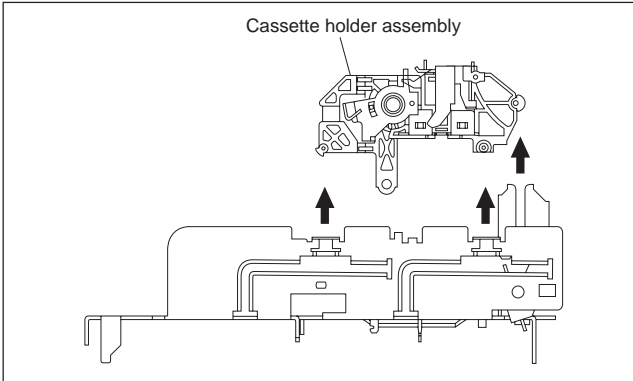
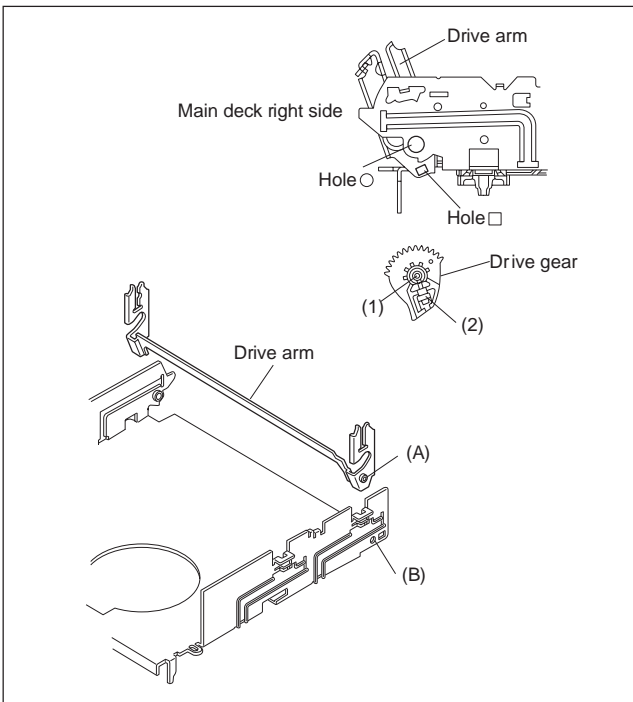

Fig.3-2-3d
Fig.3-2-3f
- (5) While holding the left side of the cassette holder, lift the cassette holder assembly so that the three legs on the left side are all released. Then pull the legs (A) and (B) on the right side out of the rail and also pull up the leg(C). (See Fig.3-2-3d and Fig.3-2-3f.)
- (6) Draw out the drive gear, and remove the drive arm.
- (1) Insert the section (A) of the drive arm into the section (B) of the main deck.
- (2) Insert the section (1) of the drive gear into the round hole, and the section (2) into the square hole on the drive arm. (See Fig.3-2-3f.)